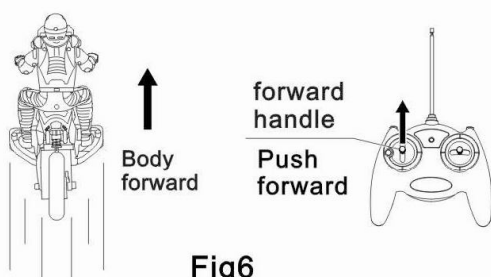

Fig6
- 1.Put the body on the ground, push the "forward handle" of remote, body moving forward.(Figure 6)